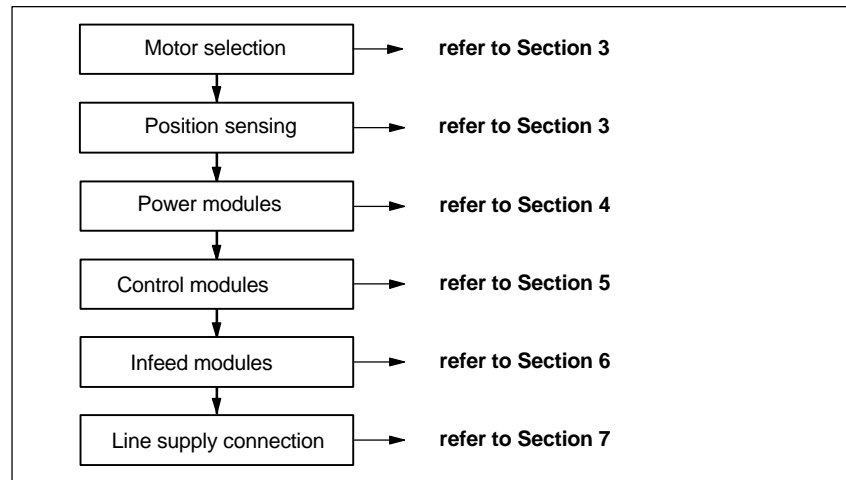

Fig. 1-4 Selecting the components
- Phase 1 Selecting the components (refer to Fig. 1-4)